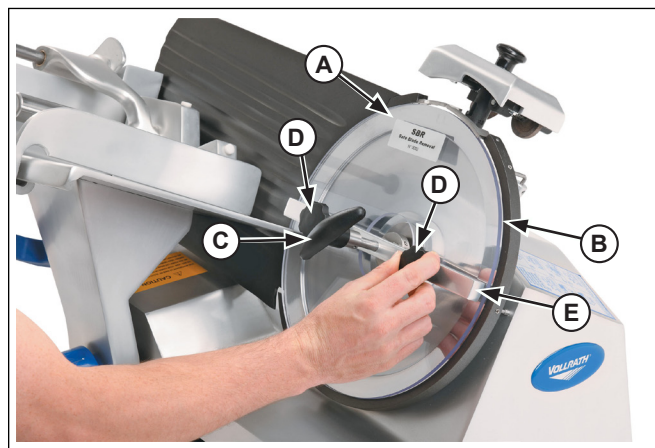

Figure 12. Safe Blade Removal Tool and Blade
2. Lift the knob (C) and sharpening assembly to the “UP” position.
3. Set the safe blade removal tool (A) onto the knife (B) aligning with center blade hole.
4. Screw the two knobs (D) into the corresponding holes on the knife (B) and tighten the knobs (D). See Figure 12.
12. Tighten the knife (B).
13. Unscrew the two knobs (D) while holding the cross bar (E). See Figure 12.